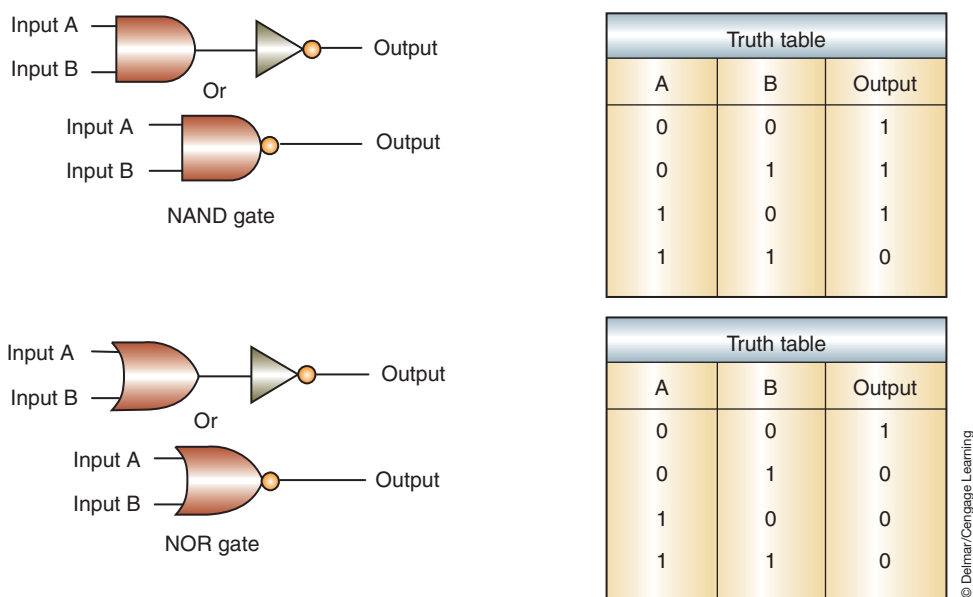

FIGURE 9-15 Symbols and truth tables for NAND and NOR gates. The small circle represents an inverted output on any logic gate symbol.
4. **NAND and NOR gates:** A NOT gate placed behind an OR or AND gate inverts the output signal (Figure 9-15).